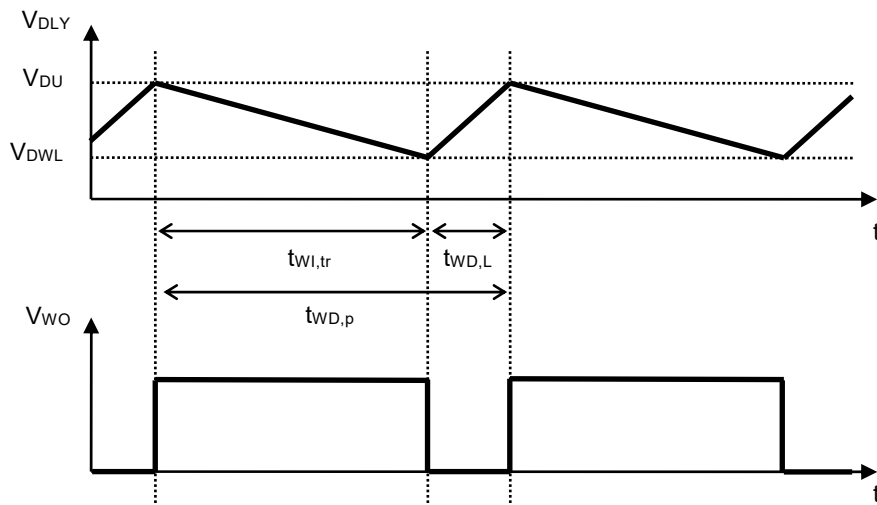

Figure 8
*1. The period of the continuous rectangular wave that appears in the WO pin when the watchdog timer repeats the detection of a time-out (Refer to **Figure 8**). It is calculated by using the following equation.
*2. The time when the WO pin continues "L" after the watchdog timer detects a time-out (Refer to **Figure 8**).
*3. The time from when the watchdog timer initiates the detection of a trigger signal to when a time-out is detected and the WO pin output changes to "L" (Refer to **Figure 8**). This value changes according to C_{DLY} . This is the guaranteed value when V_{OUT} increases to $+V_{DET}$ or higher and the discharge operation of C_{DLY} due to the detector operation is not performed. The discharge operation of C_{DLY} may be performed when V_{OUT} decreases to $-V_{DET}$ or lower. At that time, $t_{WI,tr}$, $t_{WD,L}$ and $t_{WD,p}$ may be changed.